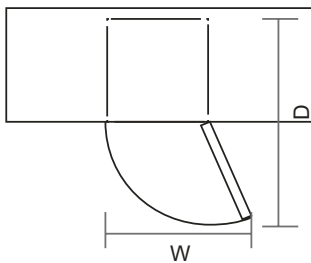

Fig. 1
3. Leave enough space to access and open the door easily ($W \times D \geq 967 \times 1226$ mm). (→ Fig. 1). If necessary, change the direction of door opening as described below.